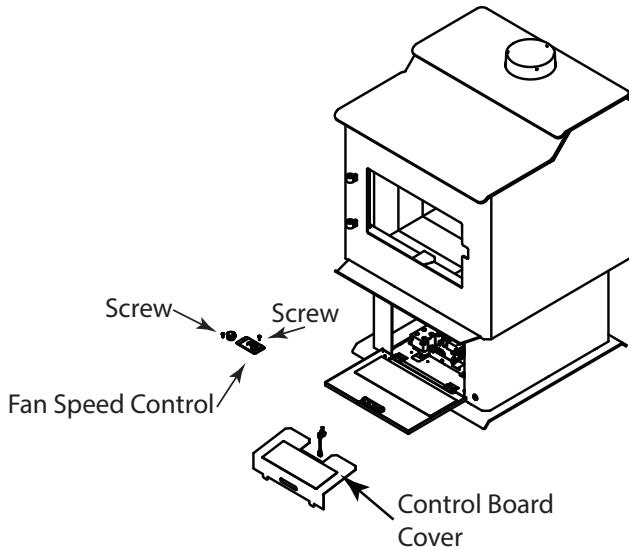

Figure 5.7
11. To install the fan speed control open the control access door on the pedestal and remove Control Board Cover. **See Figure 5.7.**